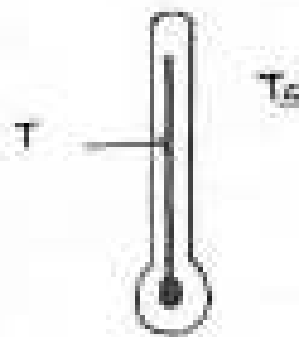

Fig 1c
- c) For the thermometer shown in fig. 1c, the ambient temperature is  $T_s$  and temperature of fluid is  $T$ . The rate of heat flow from surrounding medium to the fluid is  $Q = C_p(T_s - T)$ . The rate of change of temperature of fluid is  $D T = C_p Q$ . Construct the block diagram representation for the system in which  $T_s$  is input and  $T$  is output. Determine time constant. [6]